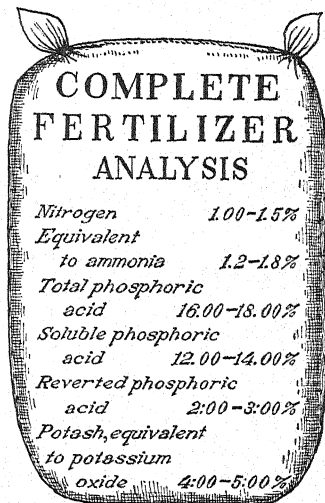

FIG. 294. — Illustrating the methods of indicating fertilizer analyses.
**520. How an Analysis Is Interpreted.** Since the nitrogen in a commercial fertilizer may be present as sodium nitrate, ammonium sulfate, or any one of a half dozen compounds, the nitrogen content of a fertilizer is often stated as "equivalent to ammonia." For example, if a manufacturer uses 100 lb. of ammonium sulfate in making 2000 lb. of fertilizer, the product contains 5% of ammonium sulfate. But approximately 25% of ammonium sulfate is ammonia. Hence the fertilizer will contain 25% of 5%, or 1.25% of ammonia, or we may say that it is "equivalent to 1.25% of ammonia." One per cent of sodium nitrate is "equivalent to 0.2% ammonia." Only 82% of ammonia is nitrogen. The farmer should not be misled by an analysis that shows per cent of nitrogen and "equivalent of ammonia," as they often do. (See Fig. 294.) He is not getting ammonia and nitrogen, but the nitrogen is present in the ammonia.